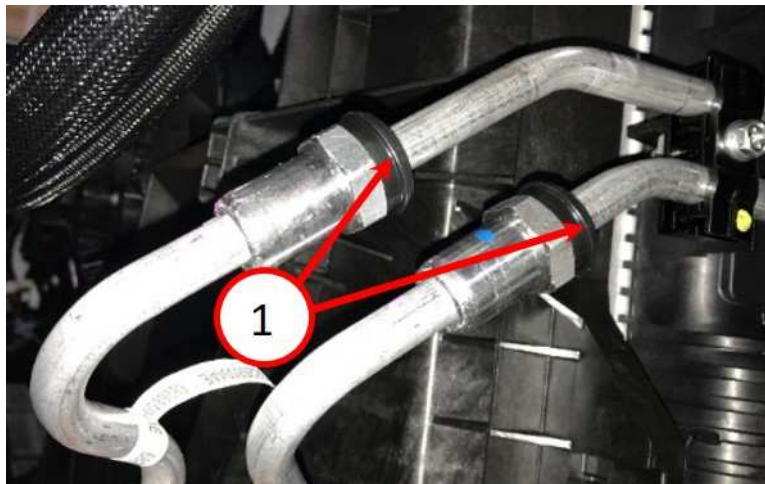

Fig. 4
3. Slide the assurance caps down the tube and snap the cap over the fitting. Listen or feel for a "snap" or "click" as the cap engages with the fitting (Fig. 4) .